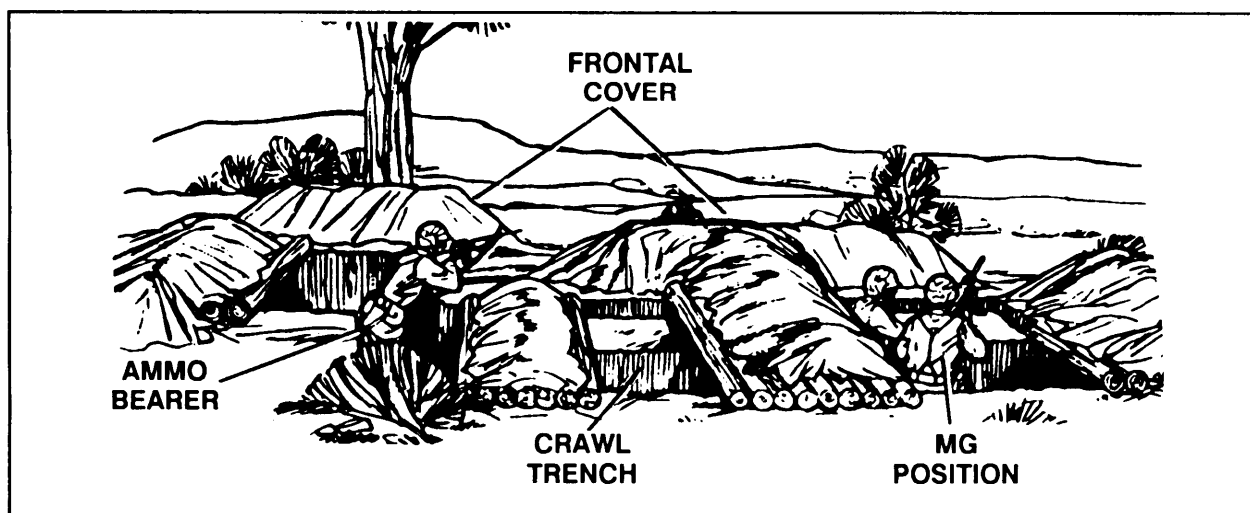

Figure D-7. Ammo bearer covering the front.
(4) When there is a three-man crew for the machine gun, the ammunition bearer digs a one-man fighting position to the flank of the gun position so that he can see and shoot to the oblique. This will allow him to cover the front of the machine gun's position (Figure D-7).